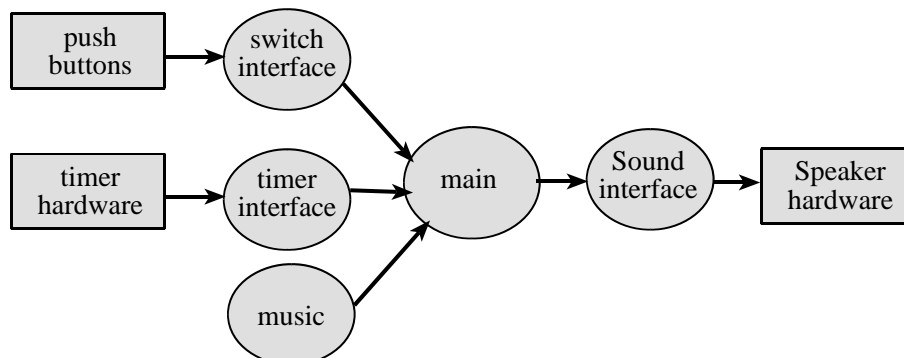

Figure 6.7. Data flows from the memory and the switches to the speaker.
A "syntax-error-free" hardcopy listing for the software is required as preparation. The TA will check off your listing at the beginning of the lab period. You are required to do your editing before lab. The debugging will be done during lab. Document clearly the operation of the routines. Figure 6.7 shows the data flow graph of the music player.
- If you organized the system different than Figure 6.7 and 6.8, then draw its data flow and call graphs